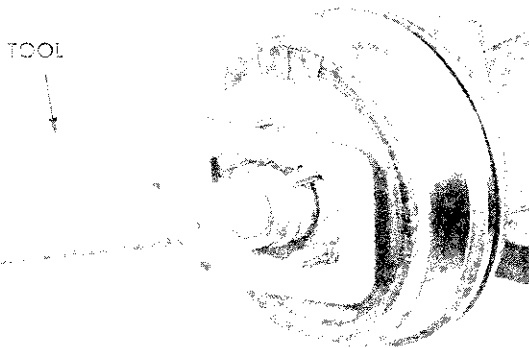

Fig. 11—Holding Output Shaft While Removing Nut
(1) Using wrench, Tool C-3281, to hold the mainshaft, as shown in Figure 11, remove the transmission flange nut and washer.
(2) Install puller, Tool C-452, to remove brake drum and flange assembly.
(3) Using a suitable drift, remove pin which secures the brake shoe anchor in extension. Remove the brake support grease shield spring and remove shield. If a screwdriver or sharp instrument is used in removing shield, care must be exercised to avoid damaging the neoprene sealing surface at the bottom of the shield.